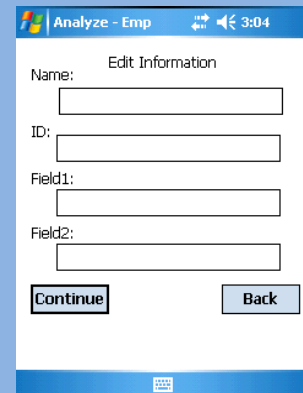

Figure 35 Edit info dialog
Edit Info - Information related to an assay may be added to the record by using this function. Tap on the **Edit Info** button on the **Results** screen to display the **Edit Info** dialog (Figure 35). From here, the user can enter the name of the test, the name (ID) of the material being tested, and other optional information in the two provided fields. To enter information in any field, tap on the field to display the cursor, activate the keyboard, and enter the desired information. When a particular field is complete, repeat the procedure for the other fields as needed. To save this information, tap **Continue** at the bottom of the screen. Tap the **Back** button to return to the Results. The data will be stored with each assay until they are changed again.